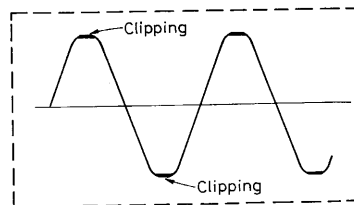

Fig. 5
⑤ Adjust R351 so that the output distortion becomes 5.5%.	⑤ Adjust R351 so that the upper and lower portions of the waveform are clipped to a slight extent (Fig. 5).